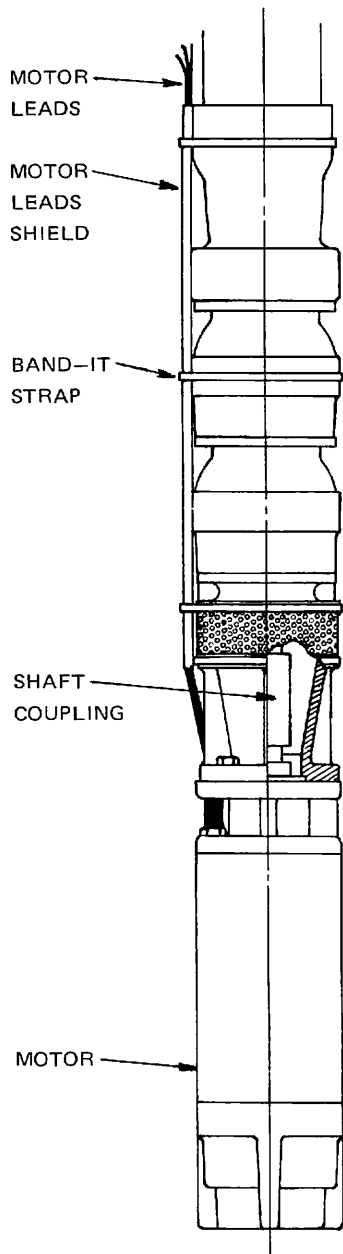

Fig. 4 Typical Pump/Motor Assembly
9. Install a shield over the motor leads to prevent damaging the leads when lowering the pump into the well. A channel shaped metal shield held in place with 1/2" wide stainless steel "Band-It" straps is recommended. The shield should be installed as shown in Fig. 4 with the lower end positioned immediately above the suction inlet, the upper end at the top of the discharge case (or check valve) and straps located as shown.